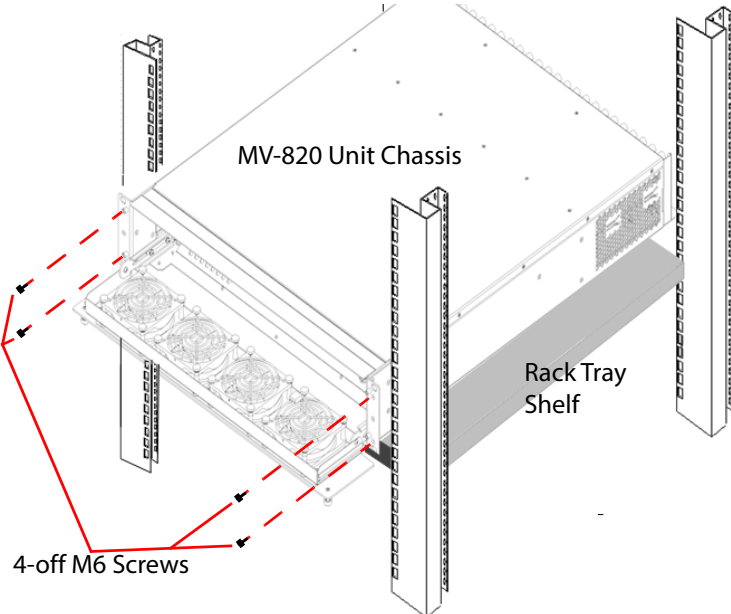
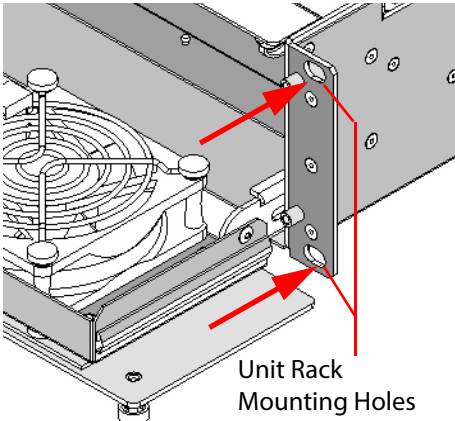

Figure 3 Rack-Mounting MV-820 Unit
Figure 4 MV-820 Unit Rack Mounting Holes
4. Secure the MV-820 Multiviewer chassis in the rack at each mounting hole using 4-off M6 screws. See **Figure 3** and **Figure 4**.